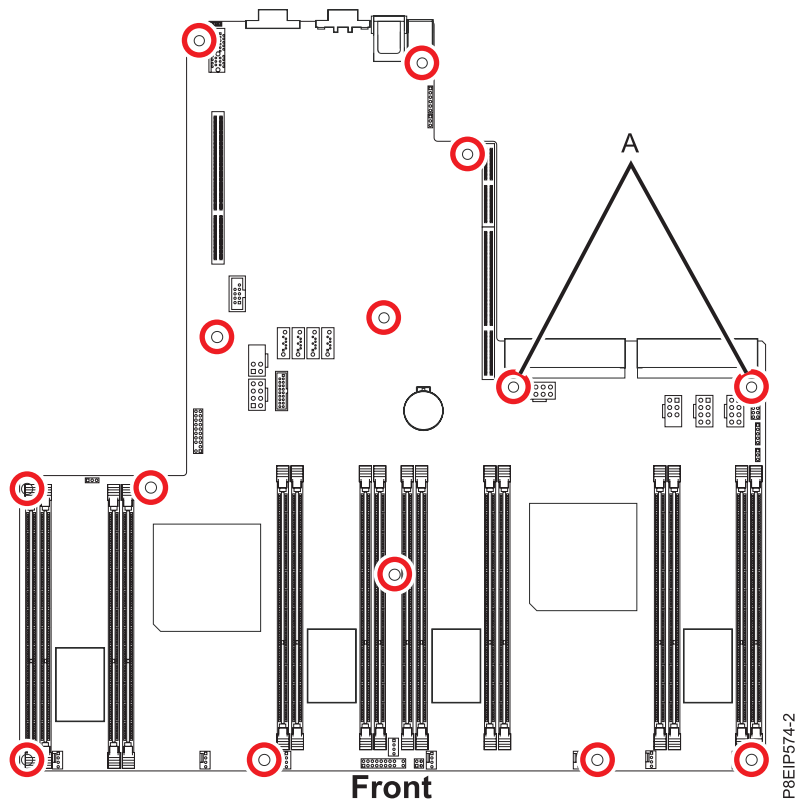

Figure 34. Screw locations. The two screws at **(A)** are black and slightly longer.
12. Remove the 14 screws from the system backplane. The screw locations are shown in Figure 34.